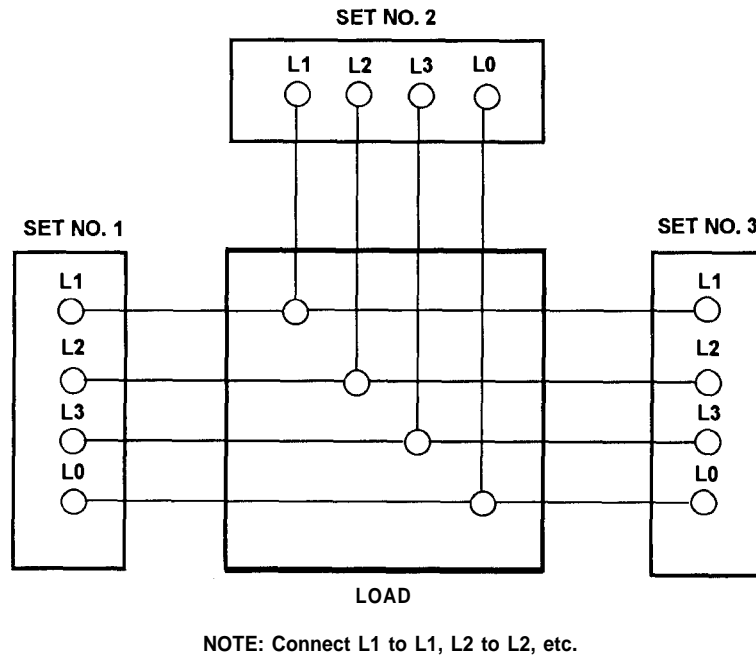
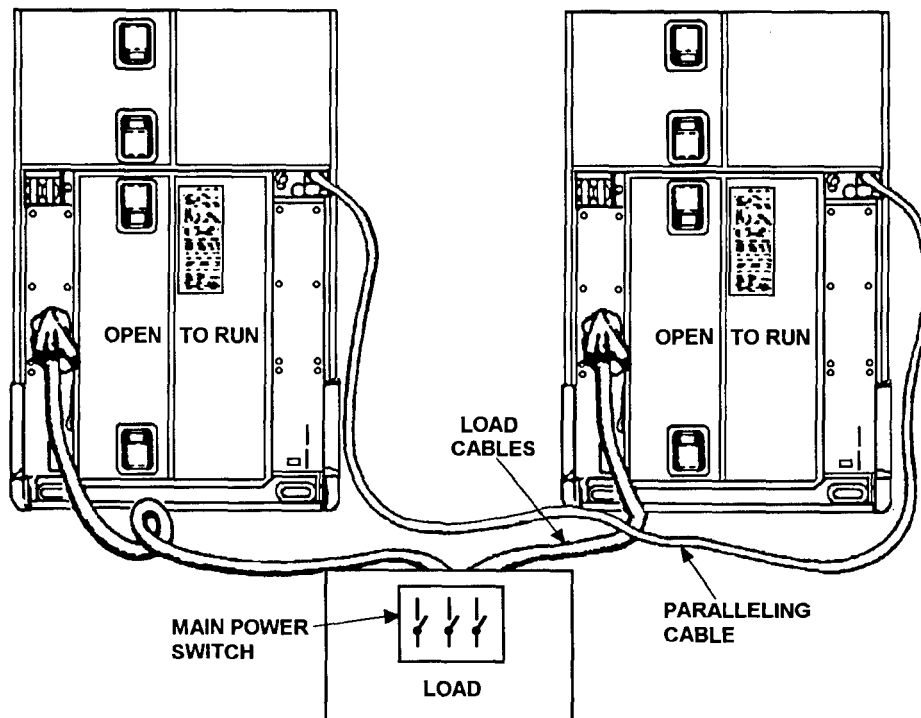

Figure 2-5. Parallel Connection
Figure 2-6. Paralleling for Load Transfer
- e. Connect load leads and paralleling cables as shown in Figure 2-5 and Figure 2-6.
Check that the main power switch (Figure 2-6) at the load is open before attempting to place a generator set on line. Equipment damage could result if caution is not observed.
Observe the synchronizing lights of the "on-coming" set. The lights should go on and off simultaneously. If the lights go on and off alternately, sets are out of phase. Stop both sets and correct interconnect cables (Figure 2-5). If the problem persists, refer to next higher level of maintenance.
Visually check that the power cable and parallel cable are in accordance with Figure 2-6. If the cables are not attached as indicated, shutdown the "on-line" set and follow instructions in paragraph 2-9.